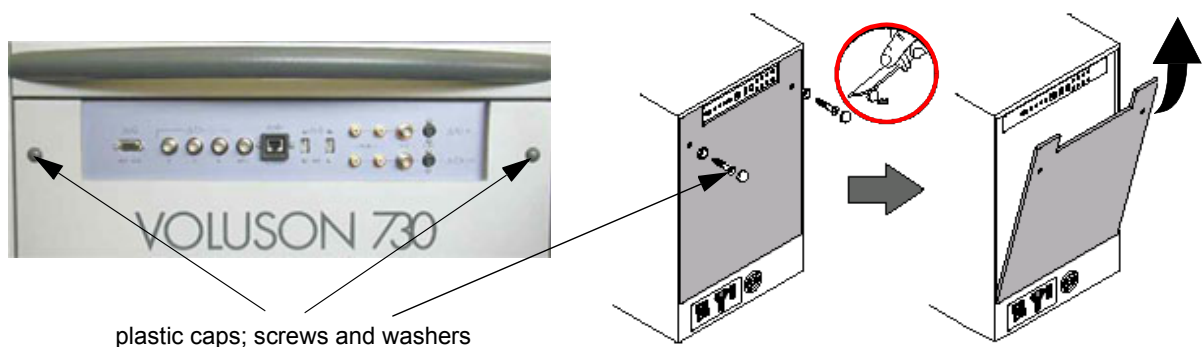

Figure 3-5 Remove rear cover plate
- 1.) Remove rear cover plate. see Figure 3-5